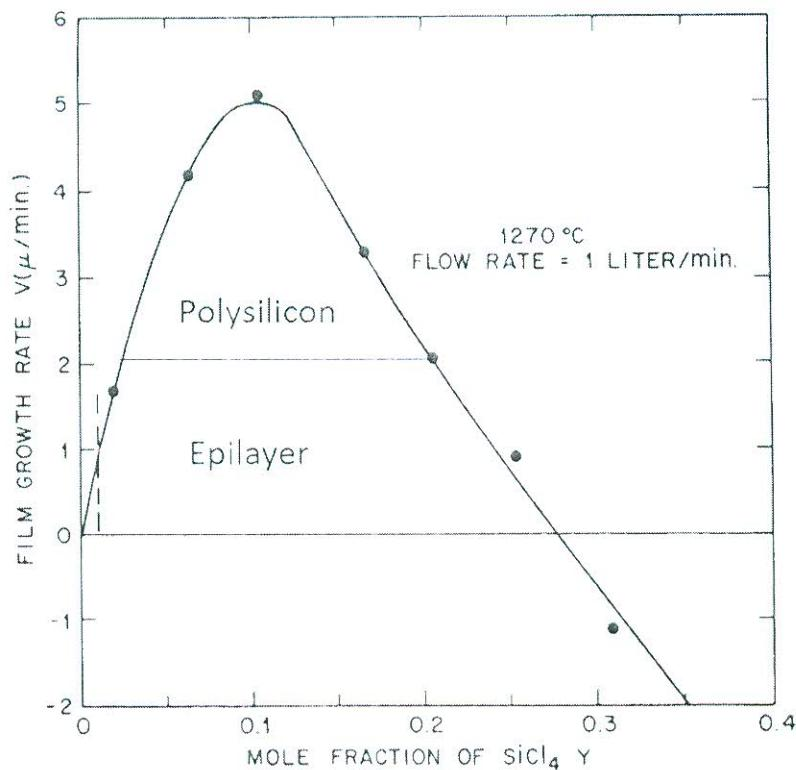

Figure 1 - Growth of silicon layer using VPE method
- [b] The silicon film growth rate of this process is shown in Figure 1.